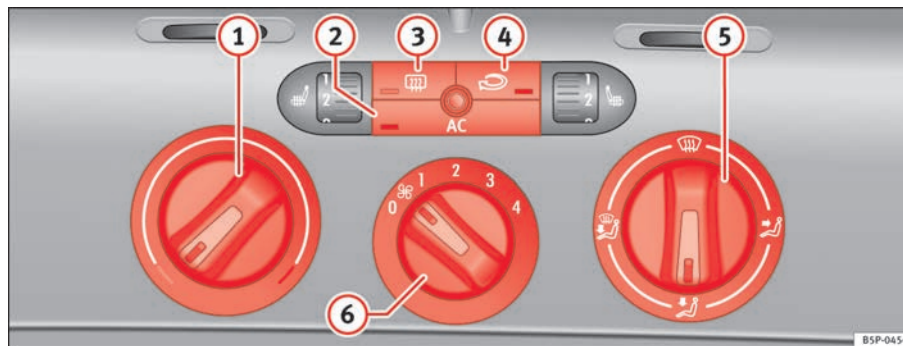

Fig. 126 On the dash panel: Climatic controls
- Using the controls ⇒ fig. 126 ① and ⑤ and the control ⑥ you can set the temperature, air distribution and the fan speed.
- To switch a function on or off, press the appropriate button ②, ③ or ④. When the function is activated, the display window in the lower corner of the button is lit.
- ① Temperature selector ⇒ page 154
- ② Button **AC** – Heating, ventilation and air-conditioning system on/off ⇒ page 154
- ③ Button – Rear window heating. The heating will be switched off automatically approximately 20 minutes after switching on. It can also be switched off beforehand by pushing the button.
- ④ Button – Air recirculation mode ⇒ page 155
- ⑤ Air distribution control ⇒ page 154
- ⑥ Blower switch. There are four speed settings for the air flow. The air flow should always be set at the lowest speed when driving slowly.
- Switch on the air conditioning using the button ⇒ page 153, fig. 126 .